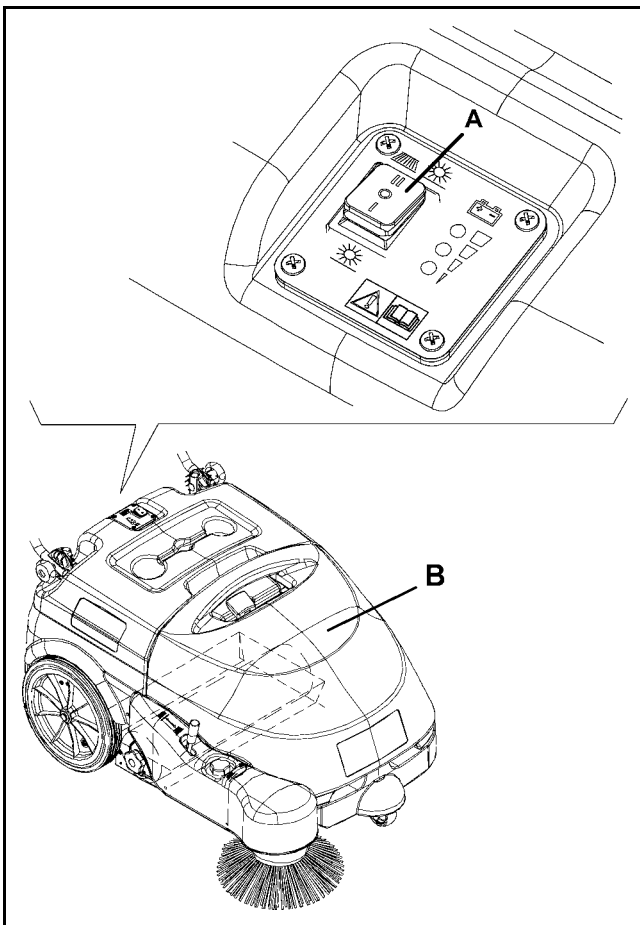

Figure 12
2. Turn the main switch (A, Fig. 12) to "0".
3. Remove the hopper (B, Fig. 12).